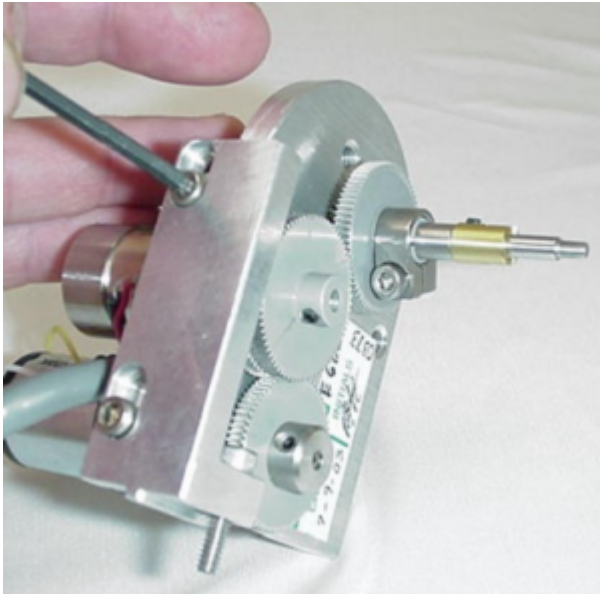

Figure 6: Location of vertical adjustment screws
- a) Locate the ASI fine focus motor drive and loosen the two vertical adjustment screws that secure the drive to the adjustment bar. (See figure 6 for location of the two vertical adjustment screws.) Using the 7/64" hex wrench, loosen the screws just enough so that the drive can slide easily in the groove in the adjustment bar.